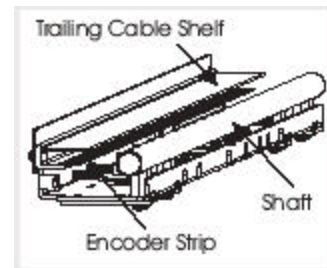

Figure 4
*Note: The encoder strip is a clear plastic strip located behind the shaft under the trailing cable shelf. (Figure 4)*